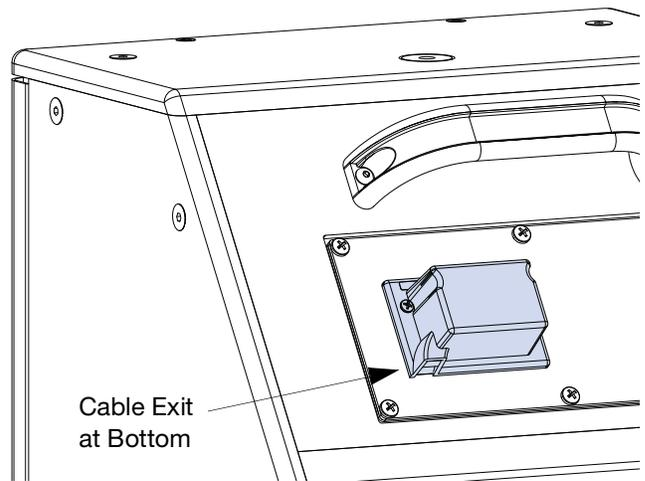
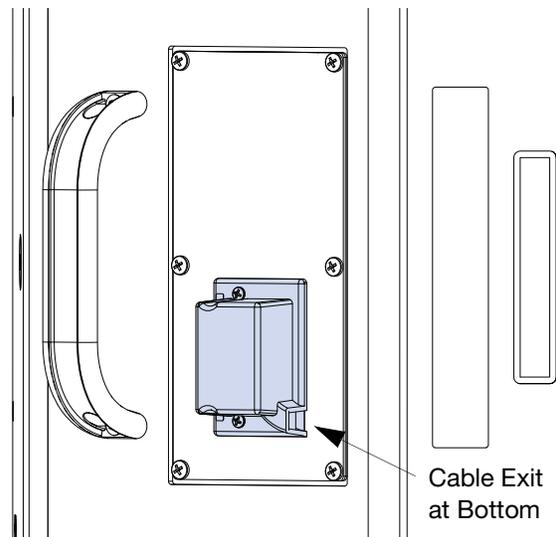

Figure 22: Only Permissible Vertical Orientation
Figure 23: Only Permissible Horizontal Orientation
**CAUTION:** When mounting the loudspeaker, ensure that the cables will exit from the bottom of the loudspeaker when the rain hood is installed. There is only one permissible vertical orientation (handle on top, Figure 22) and one permissible horizontal (handle to the left when viewing it from the rear, Figure 23).